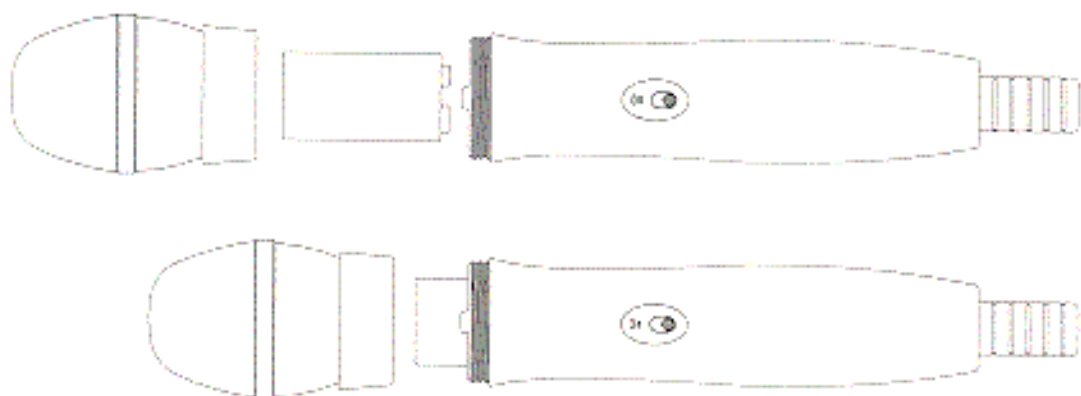

Fig. 2
1. Unscrew battery cap in counter-clockwise direction (Fig. 2).
2. Insert a 9V battery into the battery compartment according to the correct polarity as shown in Fig.2. The moment the battery touches the terminals of compartment, the indicator (5) will flash briefly. This means the polarity is correct. However, if no flash occurs, this indicates wrong insertion. Please re-insert the battery according to its correct polarity.